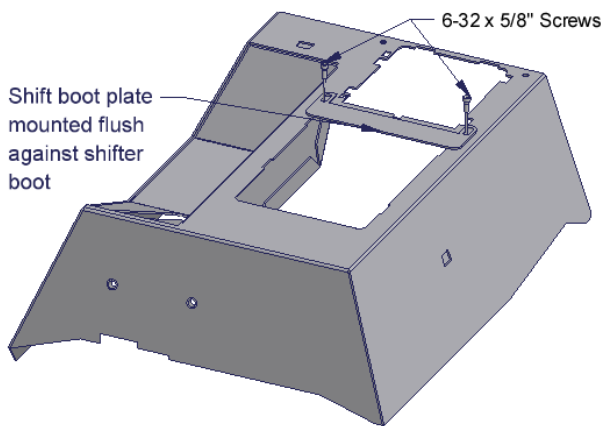

Figure 6
37. Attach the front console tray using (4) 6-32 x 5/8" screws (SEE FIGURE 6). Position the tray flush against the shift boot so it holds the shift boot tightly.